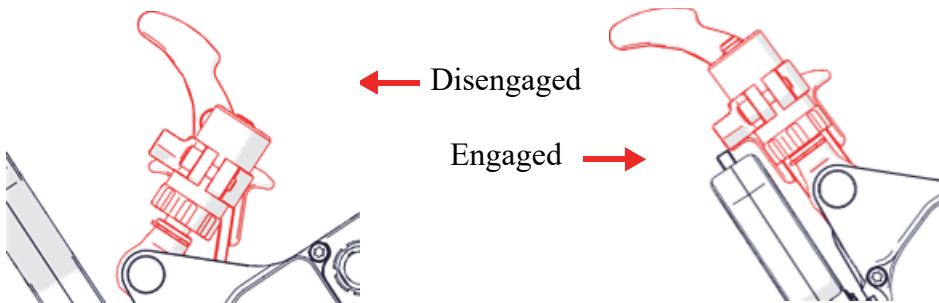

Figure 1-31 Motor engage handle positions
1. Ensure the motor engage handle is disengaged (see Figure 1-31 on page 48).
The drive wheel tension can only be adjusted when the motor engage handle is disengaged (see Figure 1-31 on page 48).